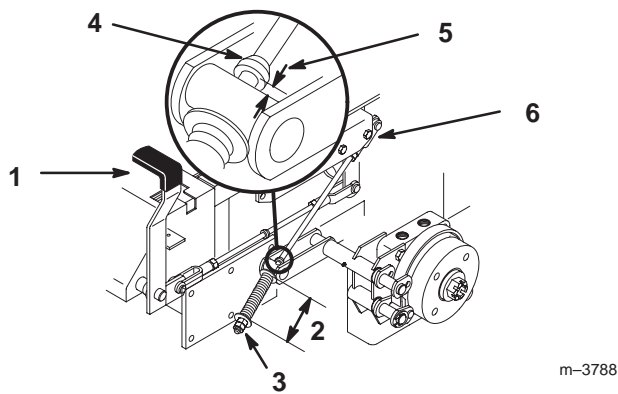

Figure 45
2. Measure the length of the spring. Measurement should be 2.75" (70 mm) between washers (Fig. 45).
3. If adjustment is necessary, loosen the jam nut below the spring and tighten the nut directly below the yoke (Fig. 45). Turn the nut until the correct measurement is obtained. Tighten the two nuts together and repeat on opposite side of unit.
6. Measure the distance between the trunnion roller and the collar on brake rod . Measurement should be 3/16"-1/4" (5-7 mm) (Fig. 45).
7. If adjustment is necessary, loosen the jam nut directly below the yoke. Turn the bottom rod until the correct measurement is obtained (Fig. 45). Tighten jam nut at yoke